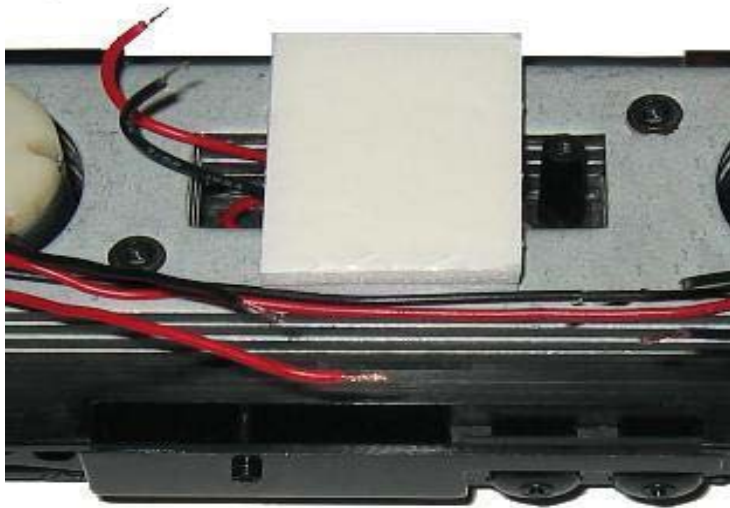

Figure 2
1. Prepare 2 pieces of double stick tape by cutting them to 1.25" long. Remove one side of the protective coating on each, and stick them together. Attach double stick to the weights as shown in figure 2. The "top" edge in the picture is the flush edge. This will leave a little room for the wires to pass the tape between the motors.